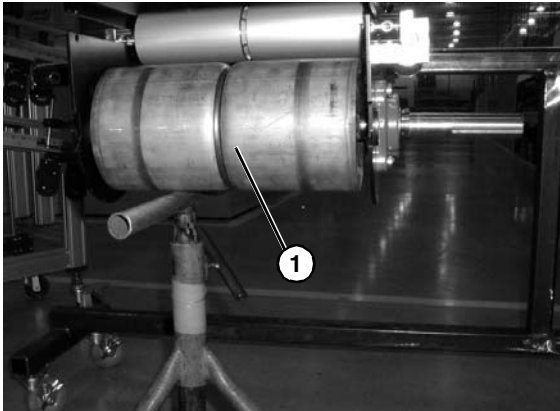

Figure 81
8. Temporarily support the drive pulley (**Figure 81, item 1**).